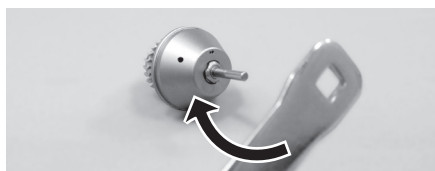

Fig. 22
- 3) Finally insert the rotor shaft nut along the test bur, and firmly tighten it with a wrench while holding the rotor (Fig.22).